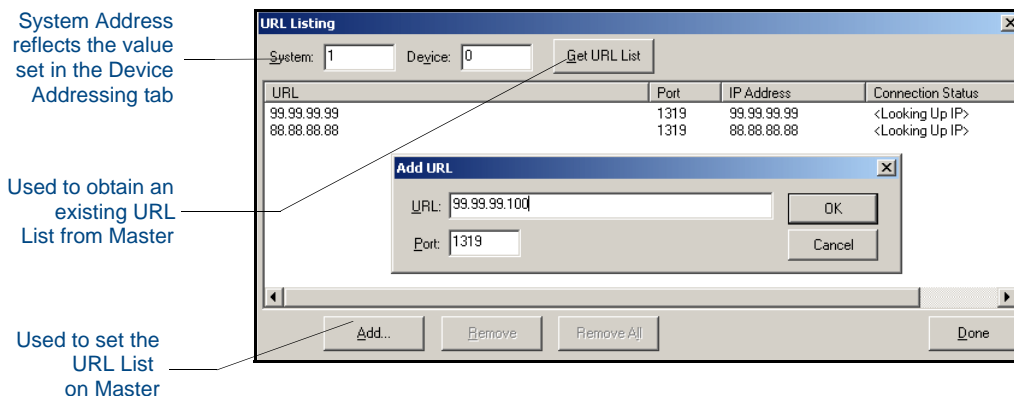

FIG. 66 URL List dialog
6. Select **Diagnostics > URL Listing** from the Main menu (FIG. 66).